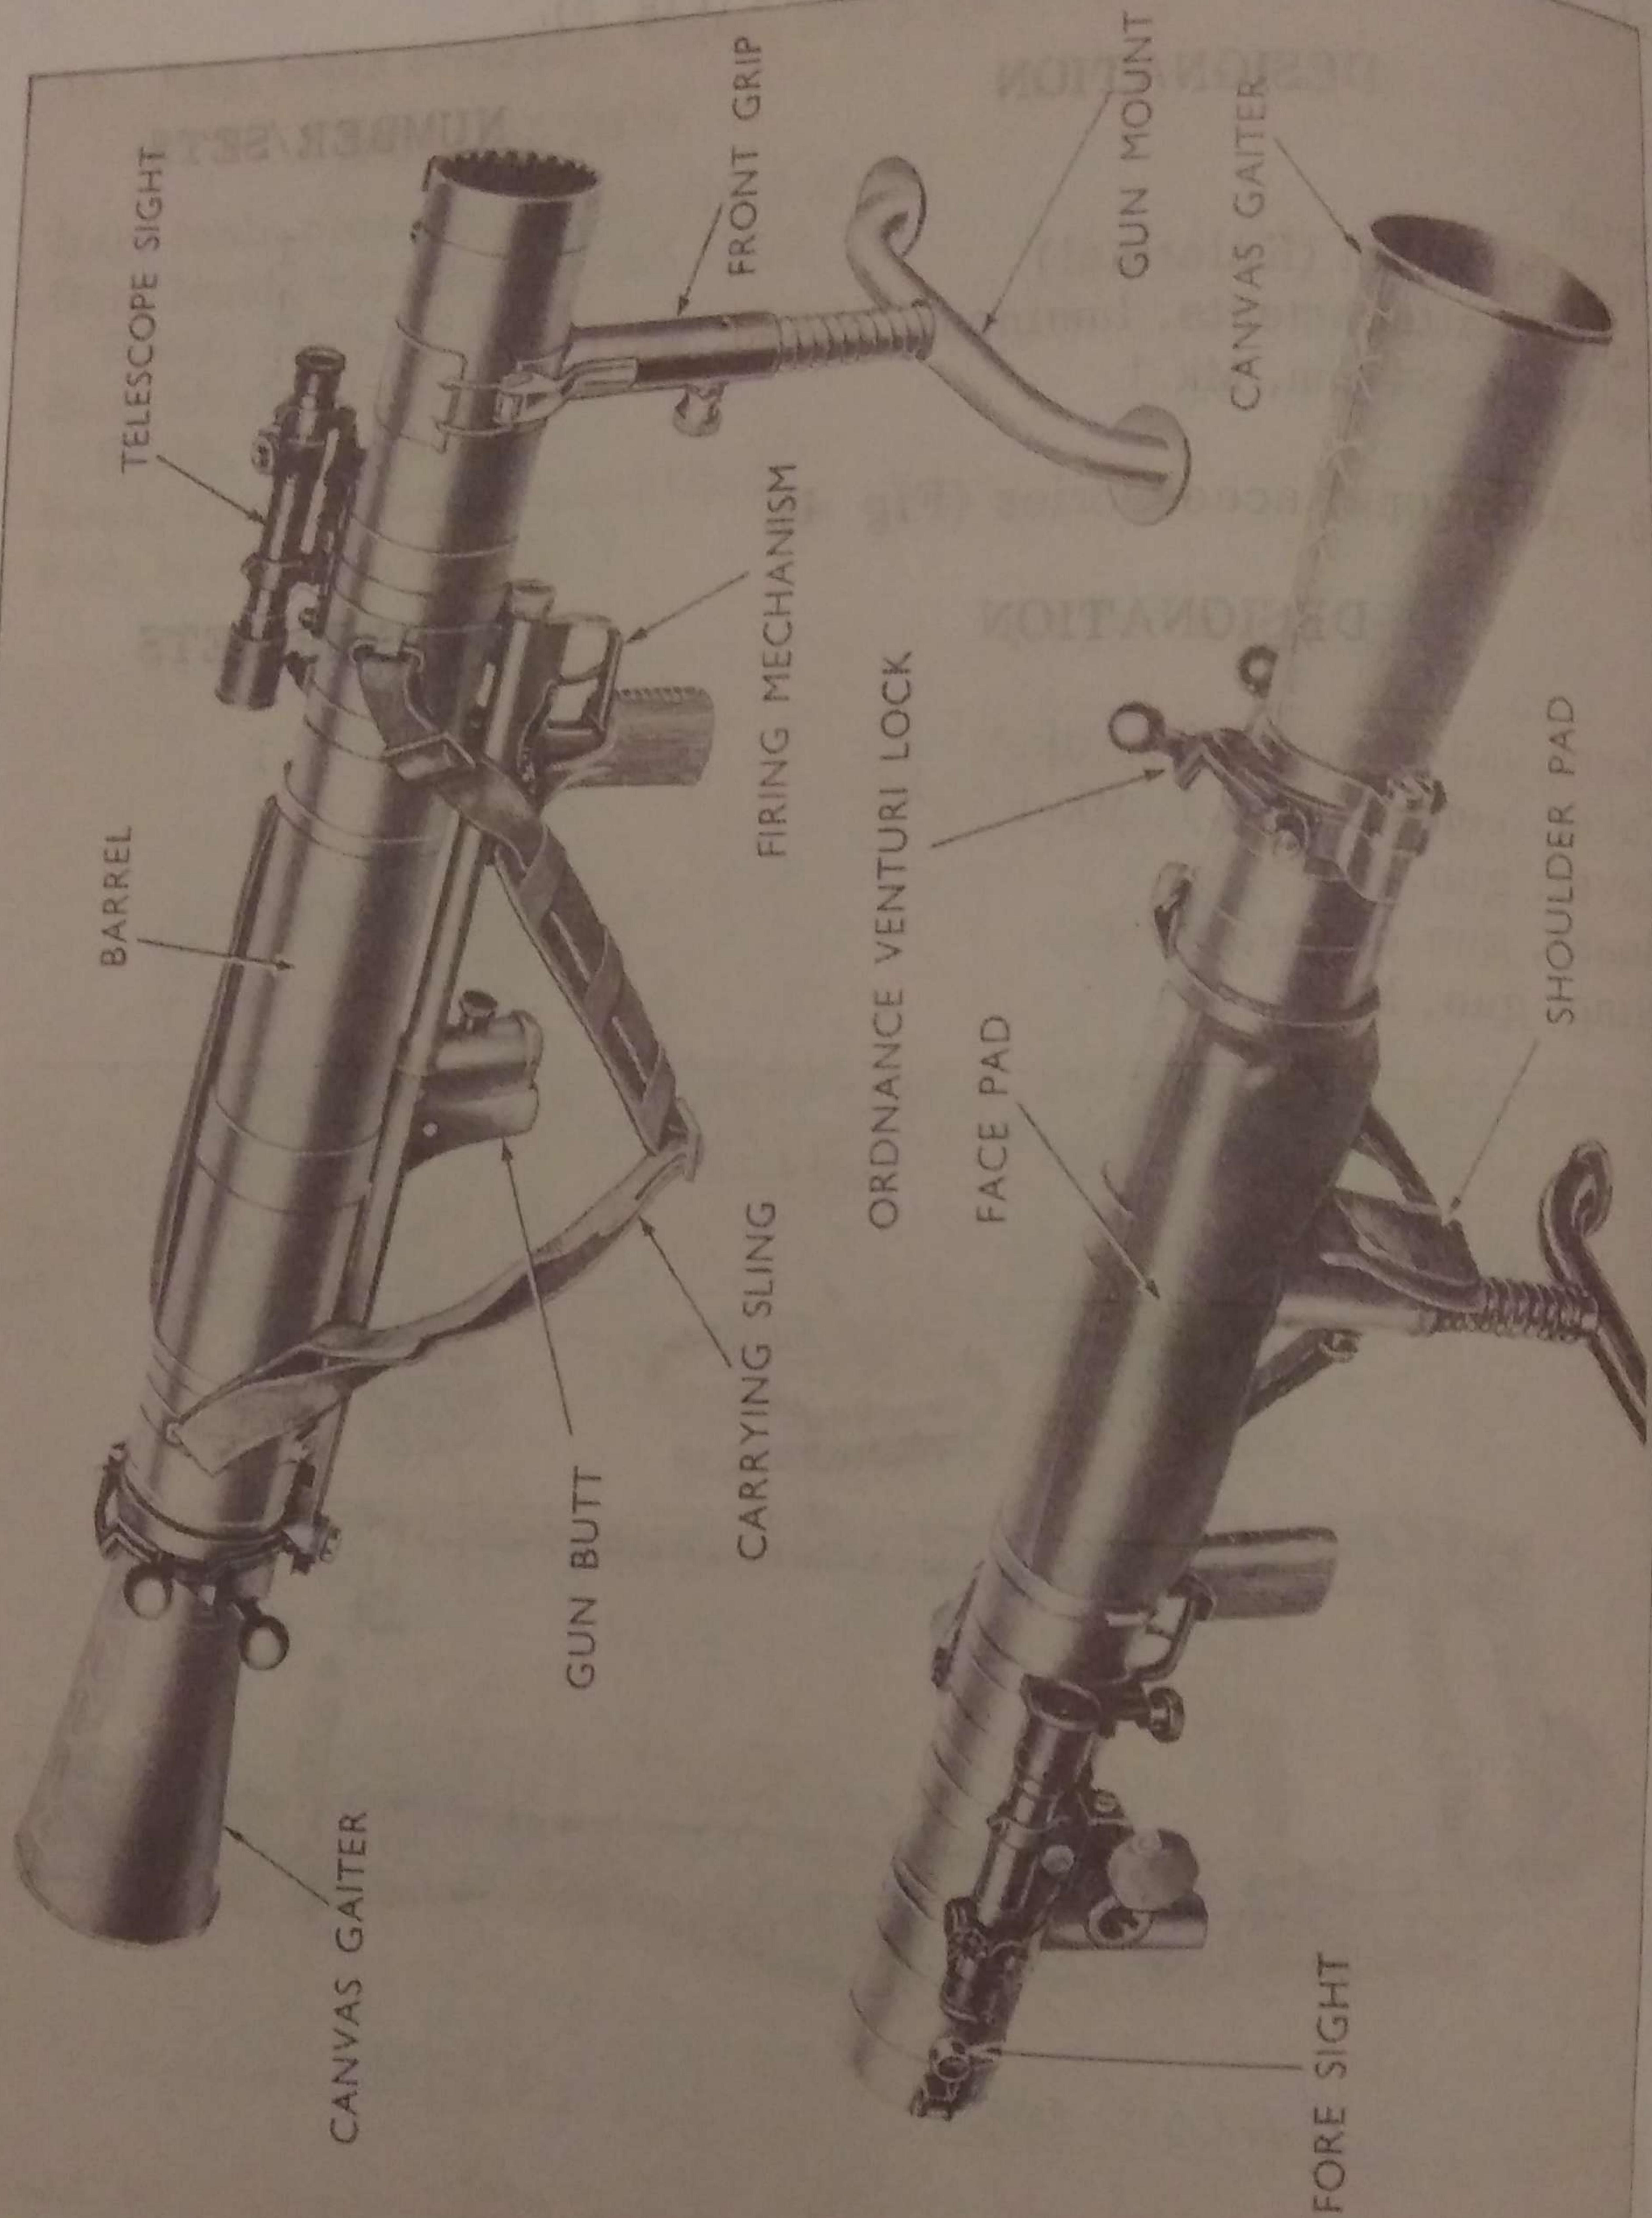

Fig 5 Gun
16. *General.* The gun (Fig 5) consists principally of a barrel, venturi, venturi fastening strap and firing mechanism, together with a gun mount housing and shoulder pad, front grip, and face pad, which are secured to the barrel by metal bands or clips and may, therefore, be adjusted to suit user requirements; in addition a gun mount and sights are provided.
unservicable it should be replaced by a canvas gaiter which covers the complete length of the venturi (Fig 5). At the front (narrow) end the venturi is formed with two lugs. The larger lug is fitted with a breech mechanism lever and is machined to form a guideway which locates over the guide on the barrel. The smaller lug is bored for the venturi pivot pin and has a projection which contacts the stop face on the barrel to limit the opening movement of the venturi. Formed between the two lugs is a rim which, on one side of the venturi is cut away to fit over the cartridge guide projection.